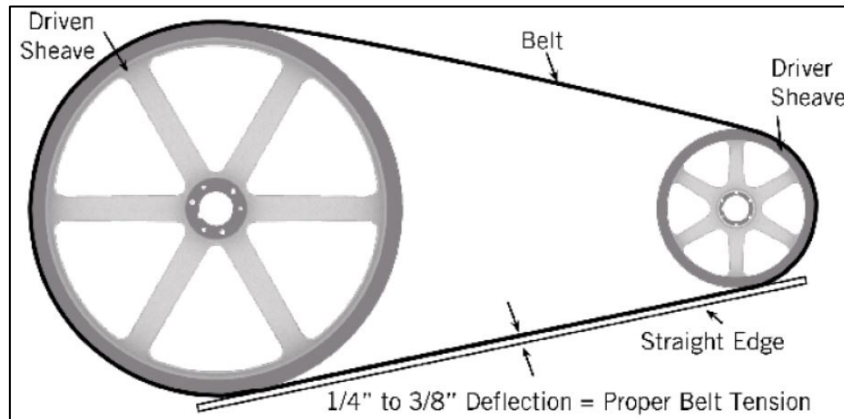
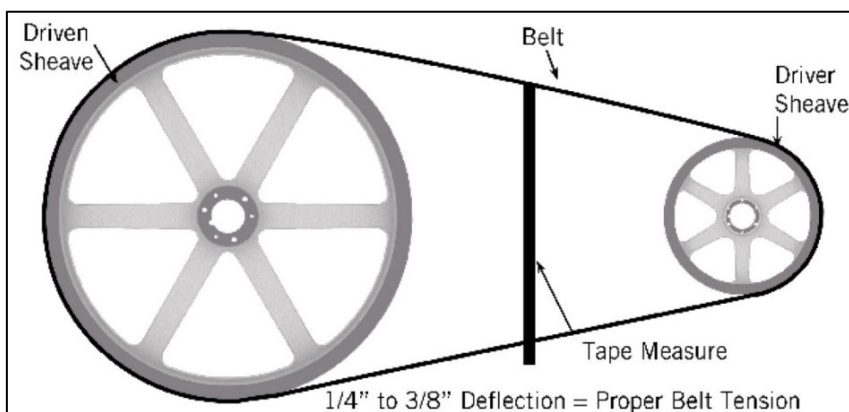

Figure 7. Belt Tension with a Straight Edge
Figure 8. Belt Tension with a Tape Measure
- Place a straight edge along the belt from sheave to sheave as shown in **Figure 7** or use a tape measure as shown in **Figure 8** to measure belt deflection.
- There is adequate belt tension if the belt deflects between 1/4" and 3/8" as shown in **Figure 7** and **Figure 8**.